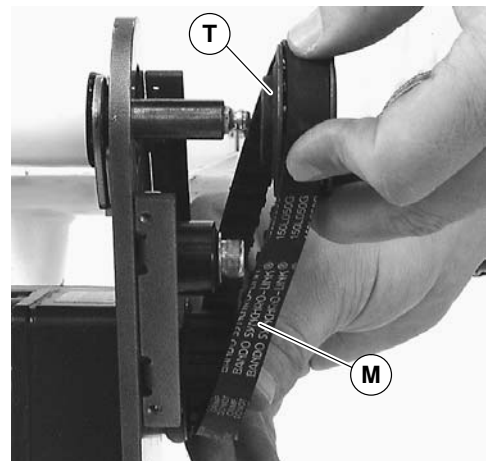

Figure 17
3. Remove timing belt (M of Figure 17).
**NOTE:** If timing belt does not slide over pulley flange, loosen driven pulley set screws (T of Figure 17) and remove pulley with belt. For re-installation, see steps 6 through 9 on page 7.
5. Remove timing belt (M of Figure 17).